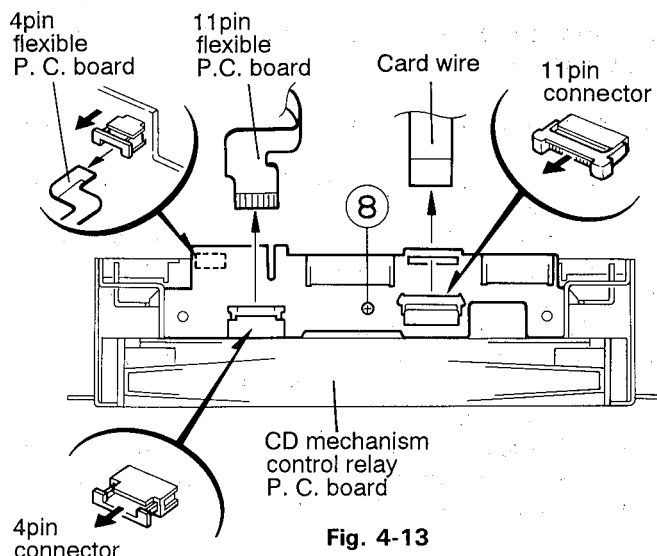

Fig. 4-13
(See Fig. 4-13 ~ 4-17)
1. While moving the connector in the arrow direction as shown in Fig. 4-13, remove the 11, 4 pin flexible P.C. boards so carefully as not to damage or bend the boards.
2. From the CD mechanism control relay P.C. board, remove the card wire in the arrow direction (See Fig. 4-13).
3. Remove the screw (8) retaining the CD mechanism control relay P.C. board (See Fig. 4-13).
10. Attach the CD control relay P.C. board (See Fig. 4-13).